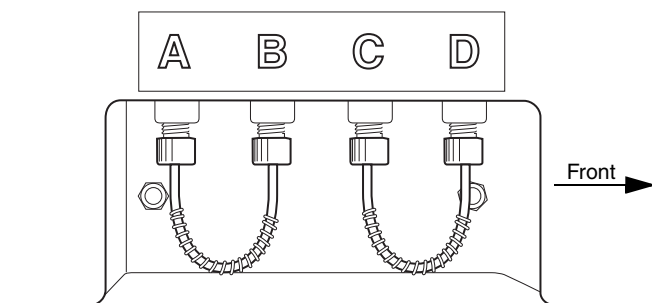

Figure 4-1 Labeled ports on Rf 200 side panel
1. Locate the ABCD label in accessory package 69-5234-008. Affix this label to the Rf 200 left side panel, just above the solvent ports (Figure 4-1).